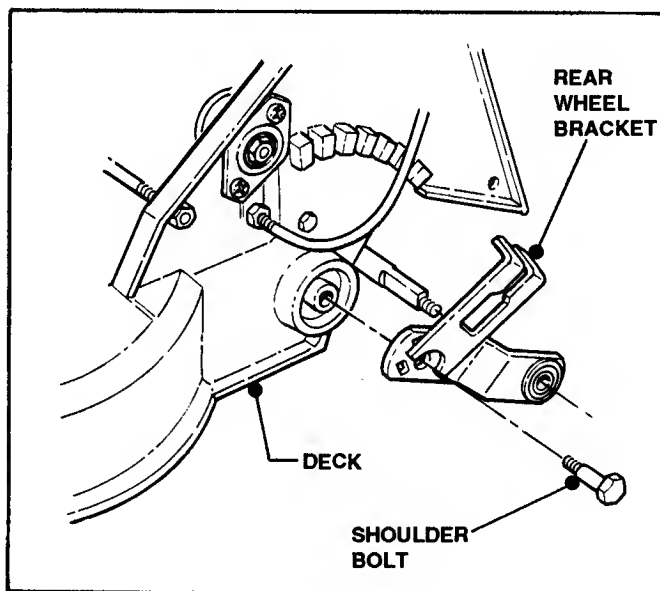

FIGURE 5.2
5. Separate rear Wheel Brackets from deck by removing shoulder bolts. See Figure 5.2.